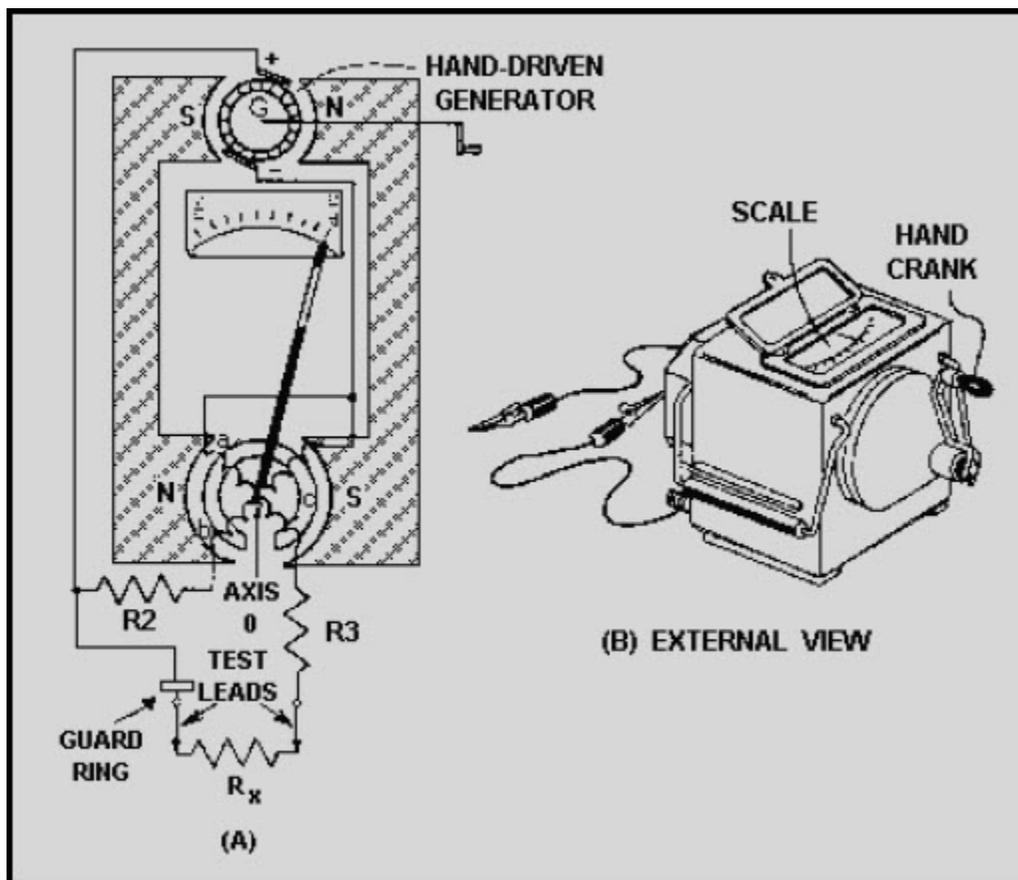

Figure 3-15 Megger internal circuit and external view
An ordinary ohmmeter cannot be used for measuring multimillion ohm values of resistances, such as those in conductor insulation. To test for such insulation breakdown, you need to use a much higher potential than that supplied by the battery of an ohmmeter. This potential is placed between the conductor and the outside of the insulation. A megger (megohmmeter) is used for these tests. The megger, shown in figure 3-15, is a portable instrument consisting of two main elements: (1) a hand-driven dc generator, which supplies the necessary voltage for making the measurement, and (2) the instrument portion, which indicates the value of the resistance you are measuring. The instrument portion is of the opposed-coil type, as shown in view A. Coils **a** and **b** are mounted on movable member **c**. A fixed angular relationship exists between coils, and they are free to turn as a unit in a magnetic field. Coil **b** tends to move the pointer counterclockwise, and coil **a** tends to move it clockwise.
The guard ring, shown in view A of figure 3-15, shunts any leakage currents to the negative side of the generator. This prevents such current from flowing through coil **a** and affecting the meter reading.
If the test leads are open, no current will flow in coil **a**. However, current will flow internally through coil **b** and deflect the pointer to infinity. This reading indicates a resistance too large to measure. When a resistance, such as  $R_x$ , is connected between the test leads, current also flows in coil **a**; the pointer tends to move clockwise. At the same time, coil **b** still tends to move the pointer counterclockwise. Therefore, the moving element, composed of both coils and the pointer, comes to rest at a position in which the two forces are balanced. This position depends upon the value of  $R_x$ , which controls the amount of the current in coil **a**. Because changes in voltage affect both coils in the same proportion, the position of the moving element is independent of the voltage. If you short the test leads together, the pointer will come to rest at zero because the current in coil **a** is relatively large. Since R3 limits the current, the instrument will not be damaged under these circumstances. The external appearance of one type of megger is shown in view B of figure 3-15.